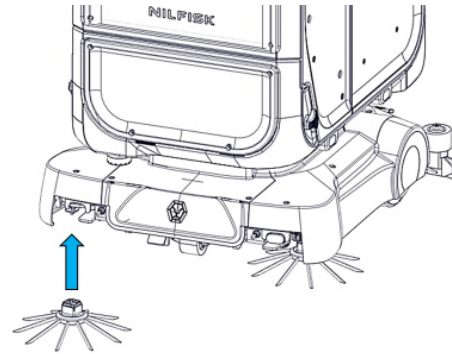

FIGURE 10-23
3. Align the core with the internal metal mating part on the robot, and then push the core of a new side brush upwards to lock, a click sound can be heard (**Fig. 10-23**).